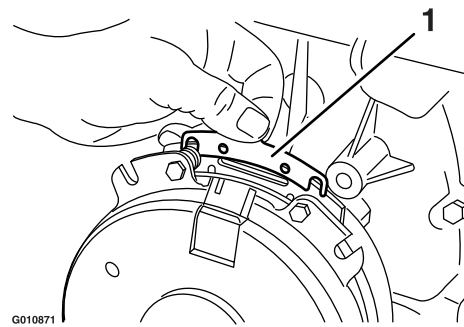

Figure 79
- B. Using needle-nose pliers, or by hand, hold the tab and remove the shim (Figure 79).
Remove any buildup of grass, dirt, or other debris from the engine screen. This helps ensure adequate cooling and correct engine speed and reduces the possibility of overheating and mechanical damage to the engine (Figure 79).